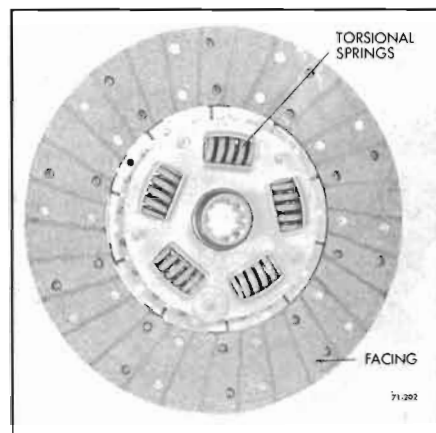

Figure 71-202—Clutch Driven Plate
3. Clutch Driven Plate. Inspect driven plate for condition of facings, loose rivets, broken or very loose torsional springs, and flattened cushion springs. See Figure 71-202.